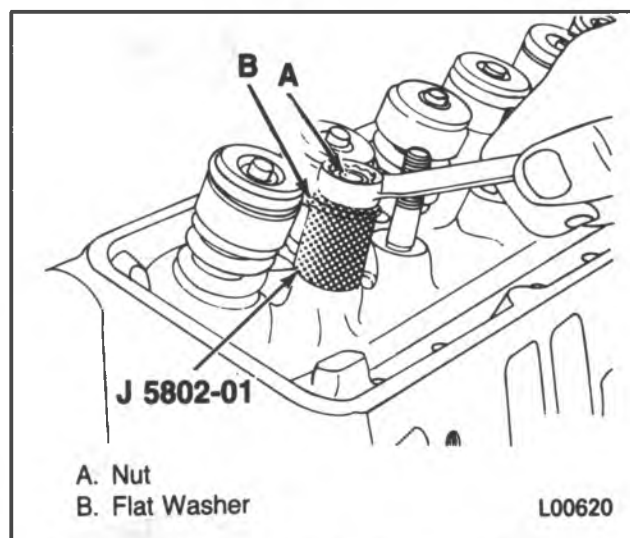

Figure 12 — Removing the Rocker Arm Stud
↔ Remove or Disconnect (Figure 12)
- Place J 5802-01 over the rocker arm stud (figure 12).
- Turn the nut to remove the stud (figure 12).